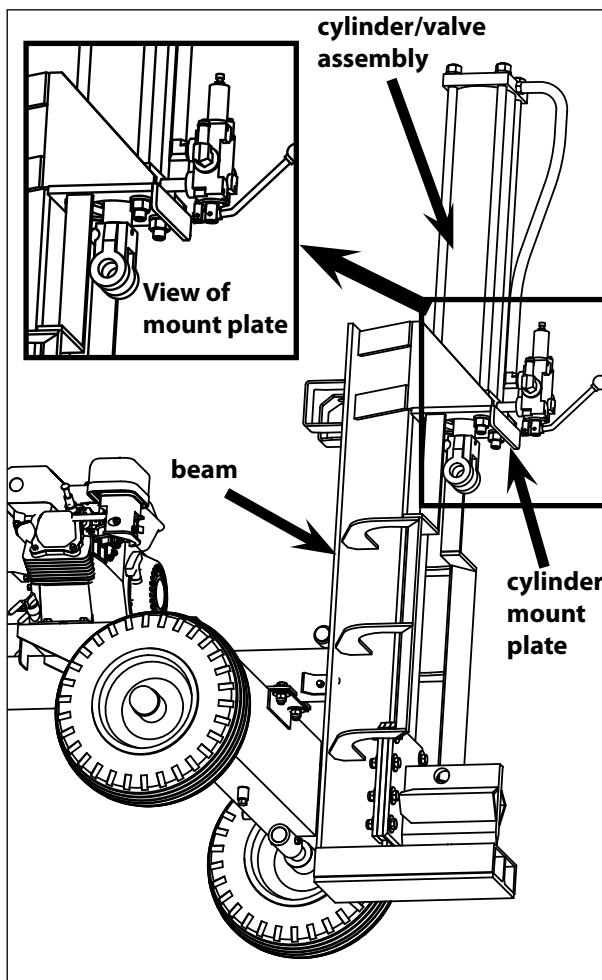

Figure 9
12. With the beam still in the vertical position, place the cylinder/valve assembly onto the beam's cylinder mount plate and attach using the four nuts, four lock washers, and four flat washers that are found in parts bag labeled #2. **SEE FIGURE 9**. Tighten with a 25mm deep-pocket socket wrench, (a socket extension will be needed to reach the nuts).